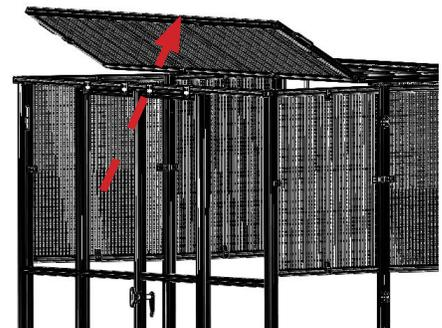

FIGURE 2.5 - Top Panel
STEP 1: Flip the top panel over onto the other half of the top panel, secure by using the latch on both ends. See FIGURE 2.5